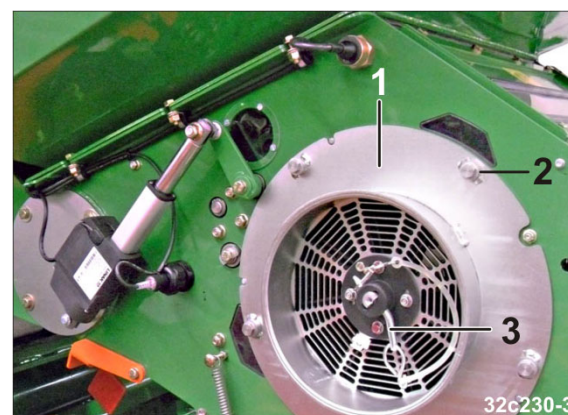

Fig. 269
3. Release the screws (Fig. 269/2) with the hexagon wrench provided.
4. Remove the bolt (Fig. 269/3).
5. Remove the housing cover (Fig. 269/1).